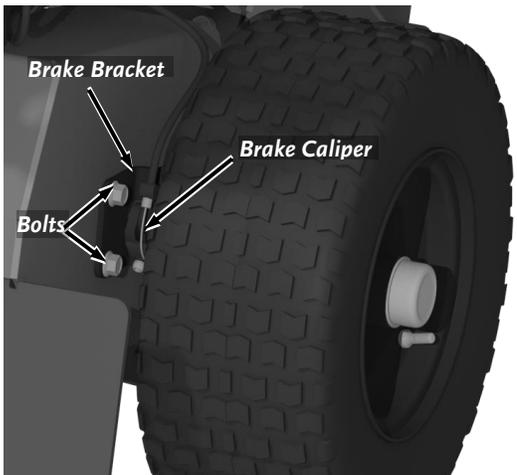

Figure 21
4. Disconnect the Brake Bracket from the Wheel Frame by removing the two Bolts and two Nylock Nuts with two 9/16" Wrenches (**Figure 21**). Discard both Nylock nuts.